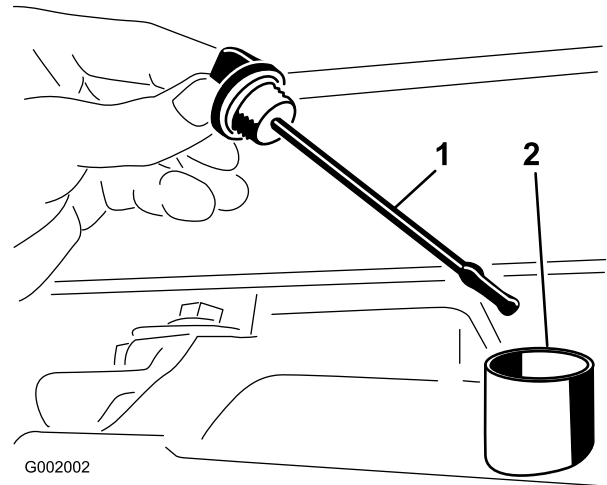

Figure 61
2. Remove the transaxle dipstick and wipe it with a clean rag (Figure 61).